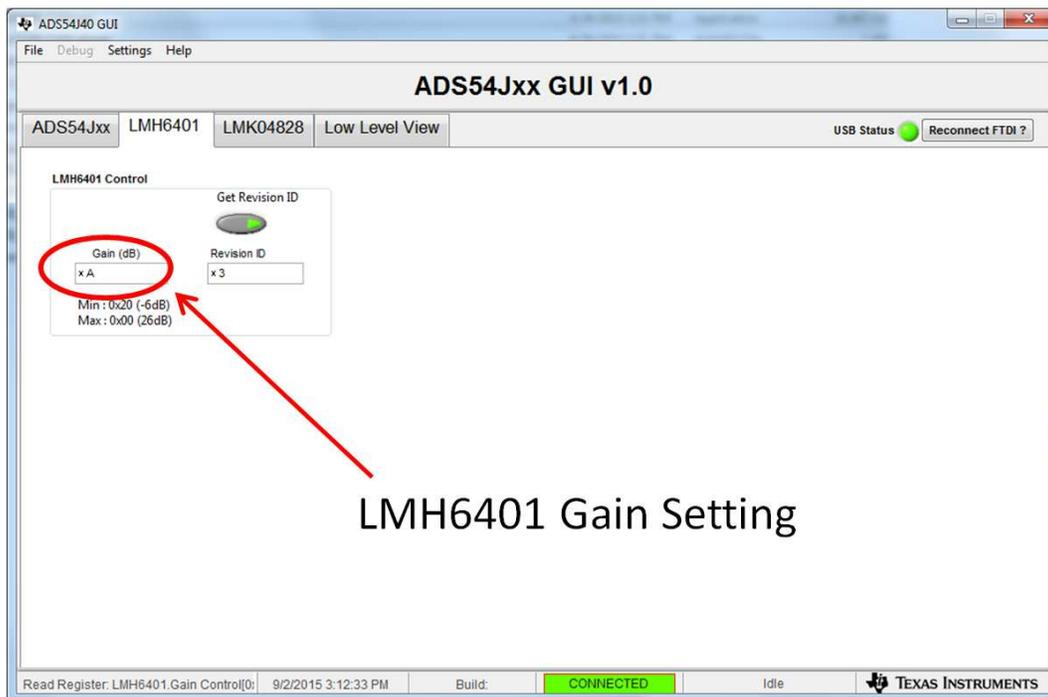

Figure 4. LMH6401 Gain Setting Control
8. Click on the LMH6401 tab. Set the Gain to "A" by entering the value in the box (see Figure 4) and then click outside the box or press enter on the keyboard. This will provide 16 dB of voltage gain from the LMH6401.